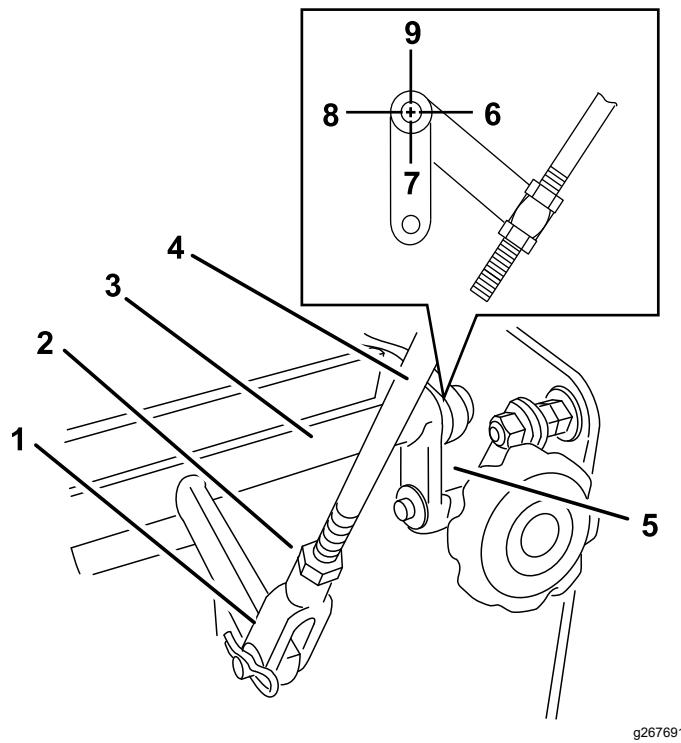

Figure 29
The tabs should point straight down at the 6 o'clock position (approximately) as shown in Figure 29.
5. Adjust the threaded yoke at the bottom of the speed-control linkage until the tabs are at the 6 o'clock position (Figure 29).